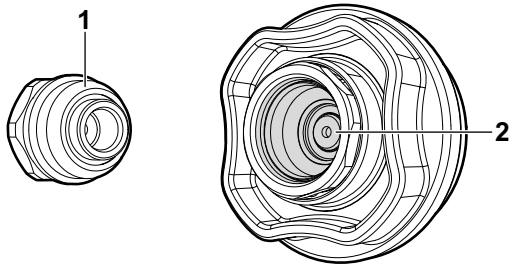

Fig. 33 Quick connect coupling components
2. Ensure that male adapter (Fig. 33, 1) is fitted on the cylinder valve port.